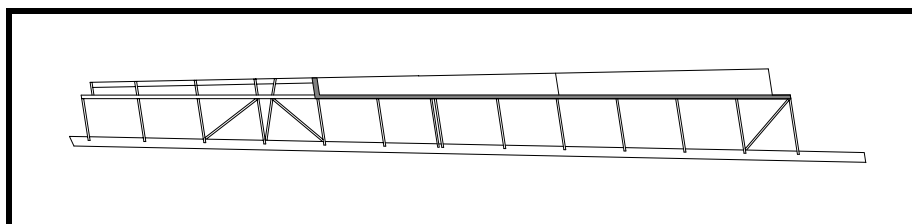

Figure 18
- ❑ Fit and install the lower leading edge skin between Sta. 6 and 10. See Figure 18. Before installation, scarf for the joint for the trailing edge skin and the next outboard skin.